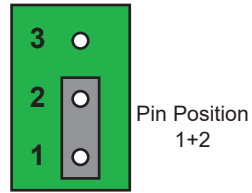

Figure 4.2 J3 — Default Position
- **Pin 1** (bottom) + **Pin 2** (center) — In this position, the reference is terminated with a 75ohm resistor. This configuration is to be used for point-to-point cabling, or on the last card of a daisy chain topology. This is the default position. Refer to **Figure 4.2** for pin positions.